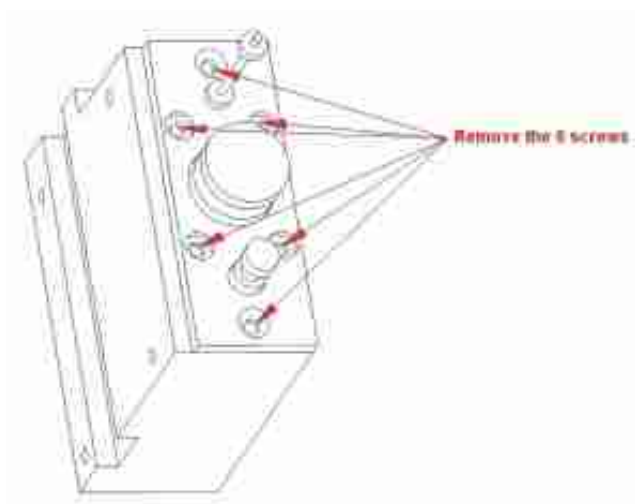

Fig.6-6 Piston screw removal
2. Loosen the 6 screws at the bottom of reagent dispensing syringe assembly and pull out the 3 pistons from the syringes body, as shown in fig 6-6: